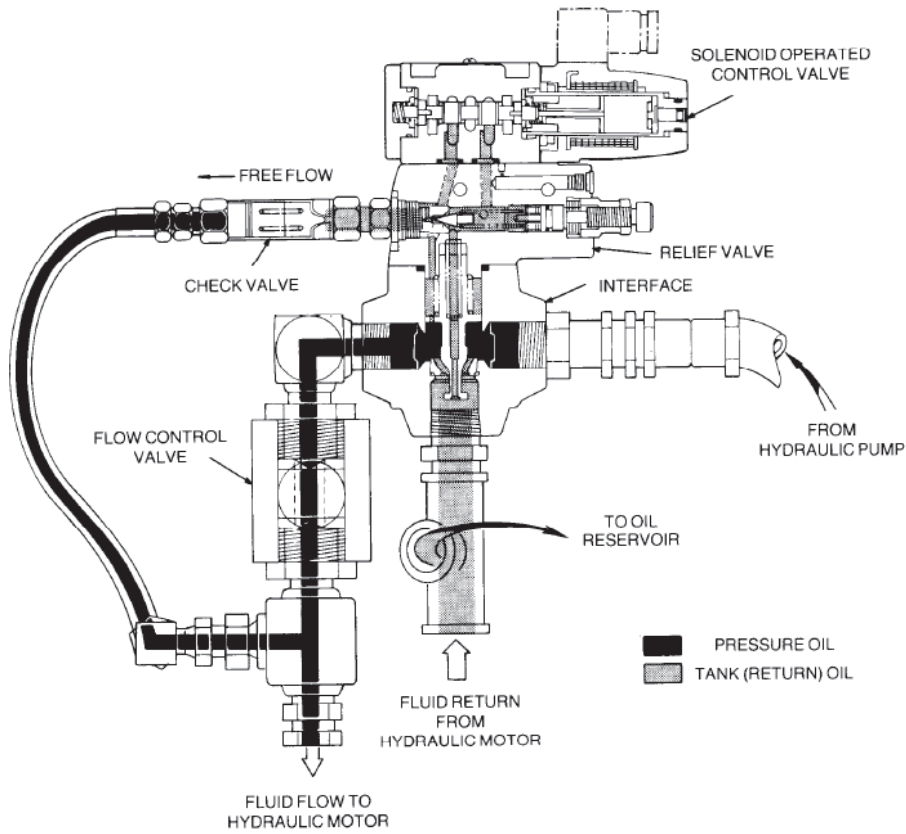

Figure 19 Fluid Flow – Increased Line Pressure
49. The check valve monitors the fluid pressure across the flow control valve. Any increase in pressure is reflected back to the relief valve poppet, forcing it off its seat which causes fluid to be dumped through the piston centre drilling. This action lifts the piston from its seat, allowing fluid to be dumped to the oil reservoir until the line pressure stabilizes (Figure 19).